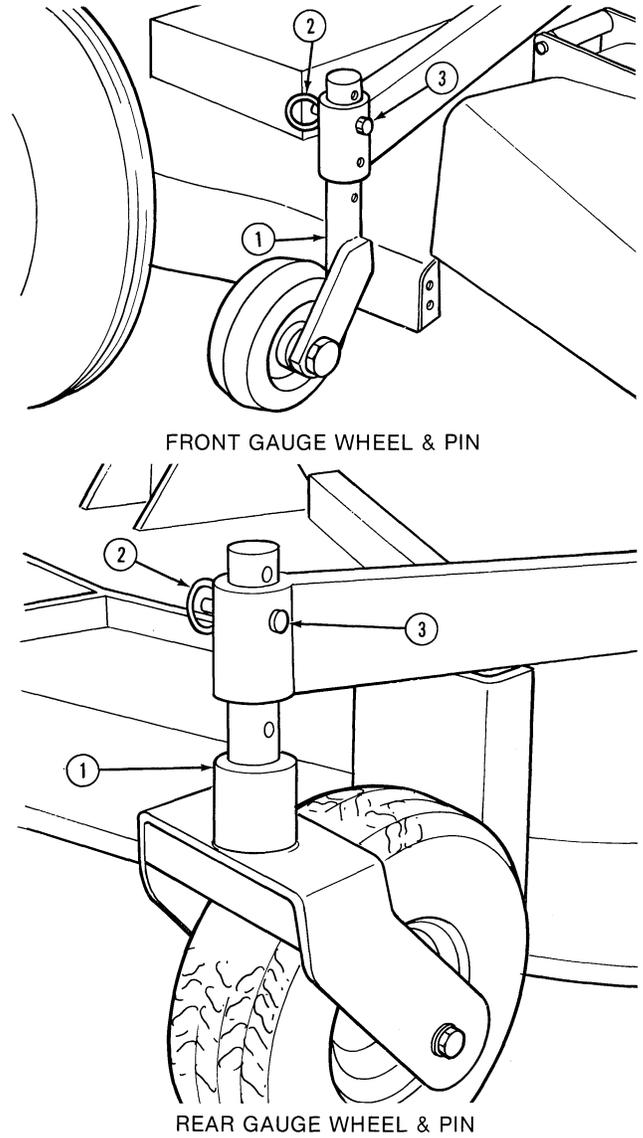

Figure 6
3. After determining the desired cutting height, as shown on the chart below (duplicated as a label on the mower deck), remove the hairpin clip (2), Figure 6, and clevis pin (3), from the gauge wheel spindle (1). Place the spindle in line with the appropriate cross hole, reinstall the clevis and hairpin clip. Repeat on the other gauge wheels.